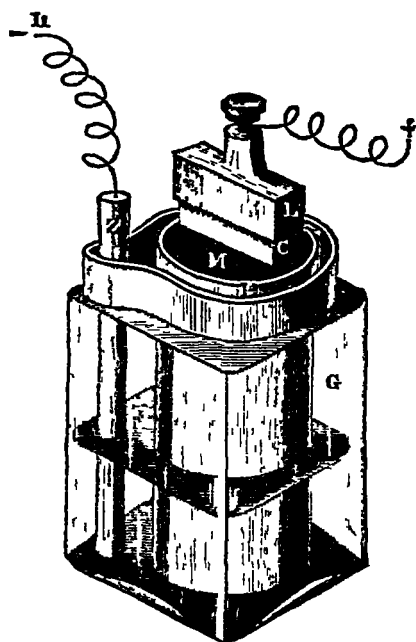

FIG 208
**The Leclanché cell** — In a Leclanche cell, commonly used for electric bells, a block of carbon, C (fig 208), stands in a mixture of the higher oxide of manganese (pyrolusite) and carbon, M, contained in a porous vessel, P. The porous cell is placed in a glass or earthenware jar containing a solution of sal ammoniac, the jar also contains a zinc rod, Z. The zinc dissolves, and the manganese is reduced to a lower oxide.